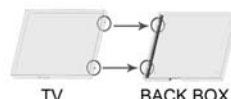

Figure 8
4. Take the TV set and connect the power and AV cables. Carefully insert the TV into the back box and align the mounting pegs with the corresponding holes in the back box (figure 8). The TV should slide down slightly and lock into position.